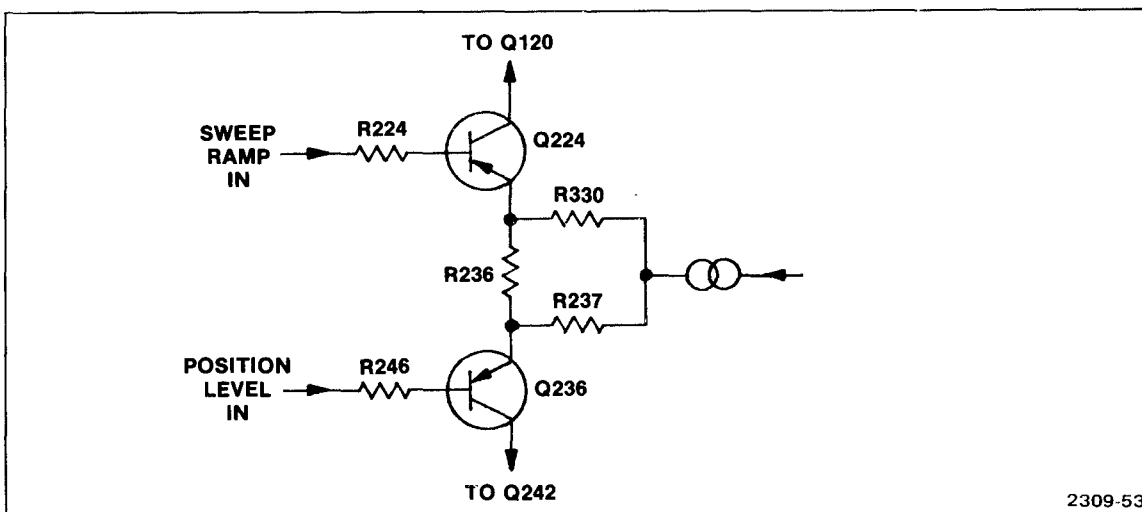

Fig. 5-4a. Simplified schematic of the X1 horizontal preamplifier.
**Input Differential Amplifier.** The input differential amplifier consists of two differential amplifiers - one for X1 operation (MAG off) and one for X10 MAG operation. Q320, Q220, Q324 and the associated components comprise a constant-current switching circuit. When MAG is off,  $\overline{\text{MAG}}$  (center of schematic 4) is high and Q320 is off. Q220 is off and Q324 is on, supplying current to Q224 and Q236 (see Fig. 5-4a). The sweep signal from the ramp generator drives the base of Q224. DC positioning current is fed to the base of Q236. R236, R237 and R330 set the stage gain. The differential output signal from the collectors of Q226 and Q324 drive the emitters of Q120 and Q242 in a cascode configuration. Since Q220 is off, Q222 and Q234 are also off.